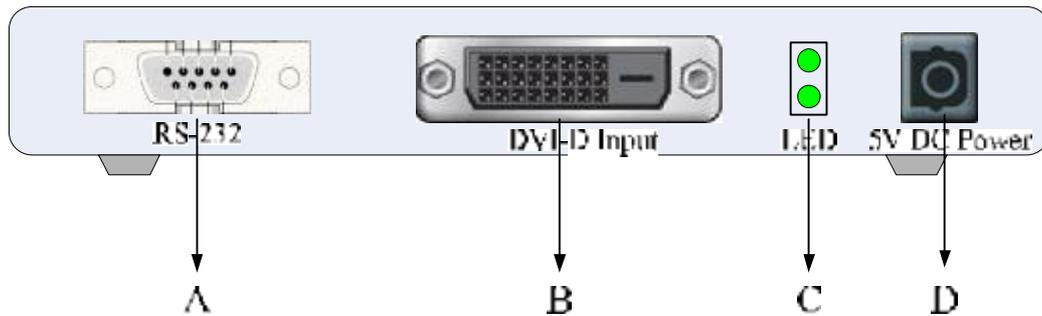

Figure 1 Front panel
1. Connect the DVI-D input interface B (refer to **Figure 1** on page 2) to PC graphic card with the DVI cable that comes as the accessory.